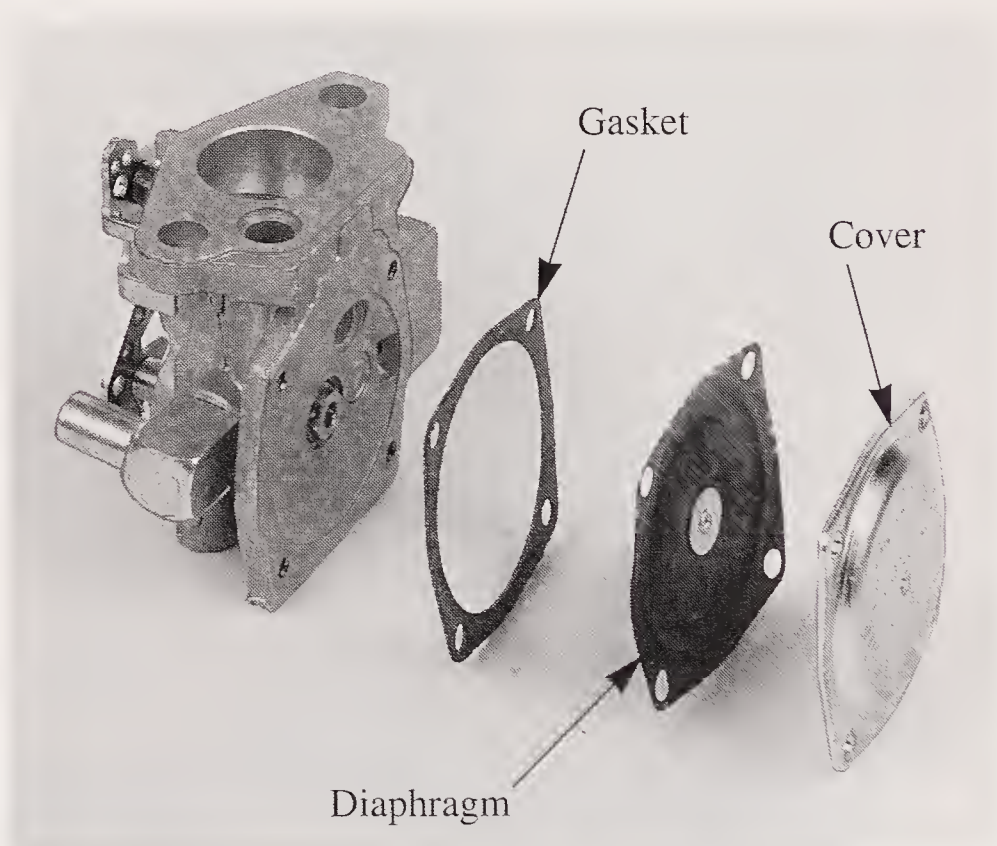

Figure 13-31. In this application, gasket, diaphragm, and cover are fastened to the carburetor body with four screws. (Tecumseh Products Co.)
4. Assemble the diaphragm as shown in **Figure 13-31**. Four screws are placed through holes in diaphragm cover to tightly draw the assembly to the body. The rivet head in the center of the diaphragm is turned toward the needle valve.